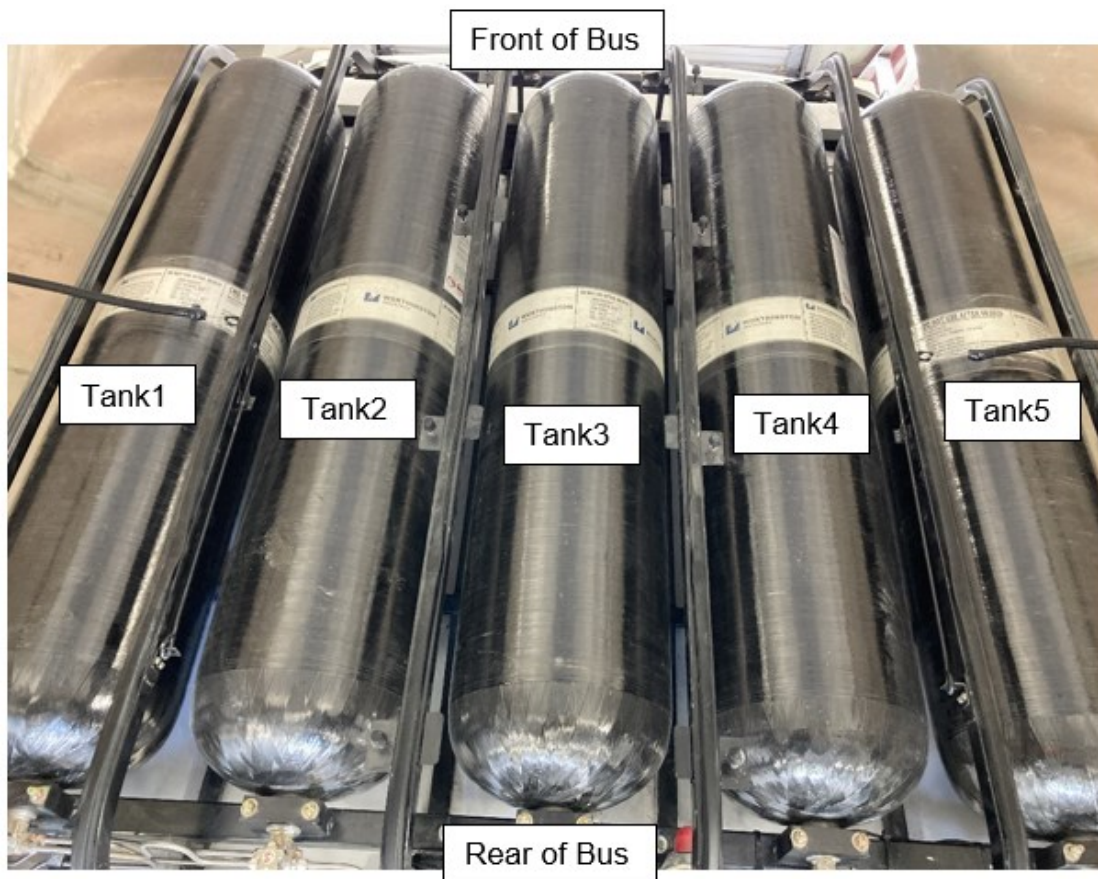

Figure 1 - CNG roof Mounted Tank Sequence.
2. Begin with an inspection of the CNG tanks, on the roof of the vehicle beneath the clam shell. Ensure the tanks are completely **full**. For consistency the tanks shown in the Figure 1 below are labeled and should be referred to as such on any WO created. Any findings during the inspection stage should be recorded on an inspection sheet.